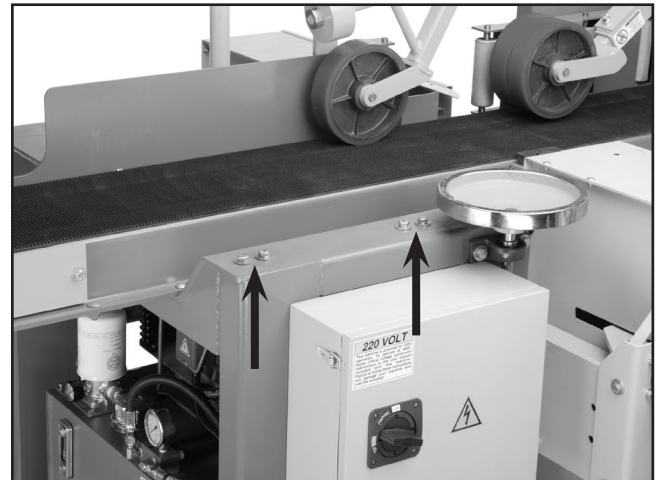

Figure 16. Return roller mounting bolts.
1. Remove all four bolts shown in **Figure 16**.